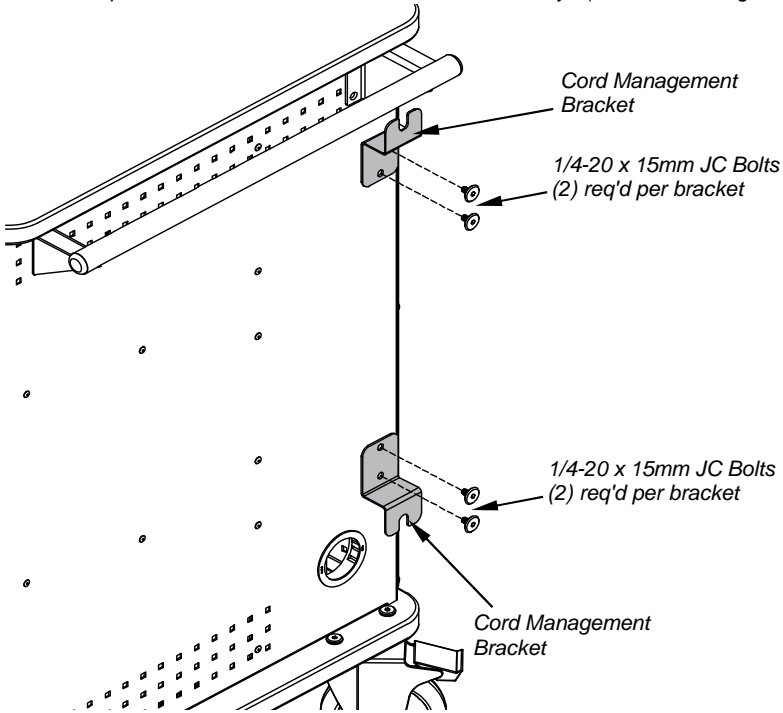

Figure 2A
- A. Attach the cord management brackets to the side panels (left and right-side) with 1/4-20 x 15mm JC bolts as shown in **Figure 2A** and tighten securely. Be sure the brackets are facing away from each other as shown.